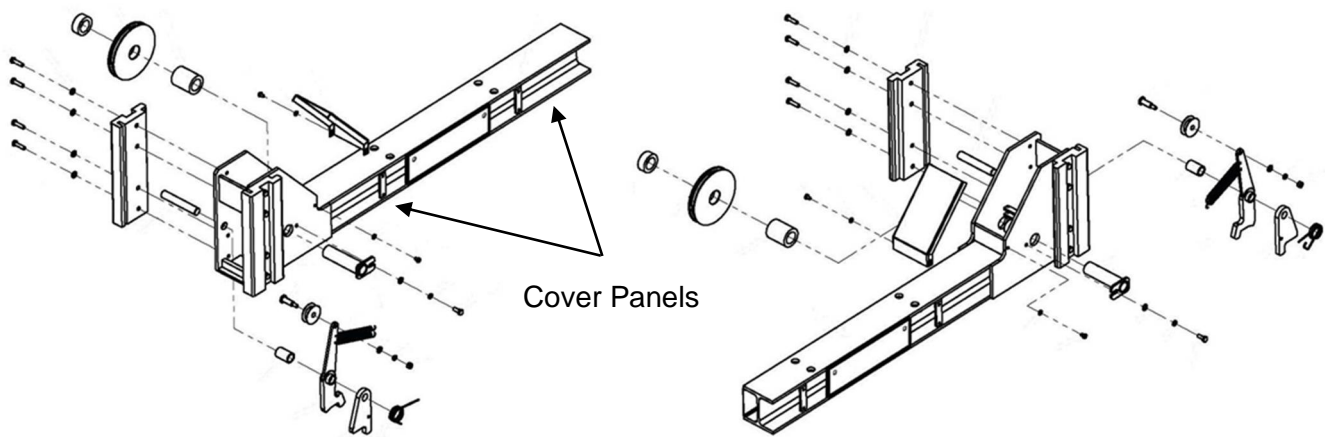

Fig 3
8. Unpack the Crossbeams, Cover panels, Ramps, Drip Trays, Jack Tray, Lock Ladders and Caster Kit from the lower Sub Runway (#2). Remove the linkage rod Cover Panels (#68, #69, #70 & #71) (Fig. 3) if not already removed. They will be reinstated later.